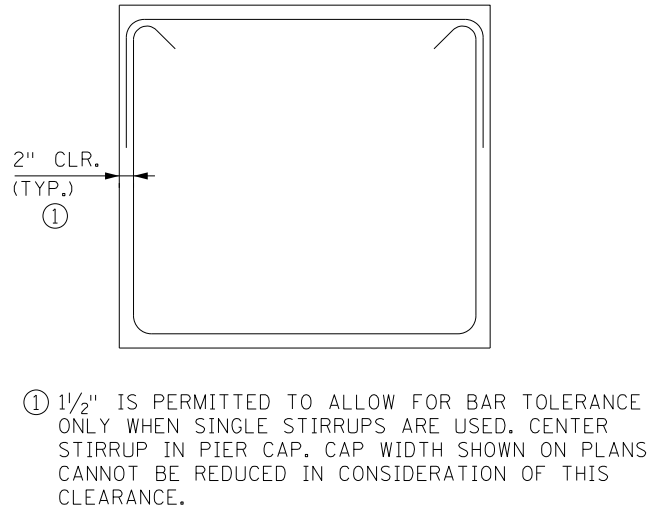

Figure 9
- When single stirrups are used in a pier cap, include the note shown in Figure 9.